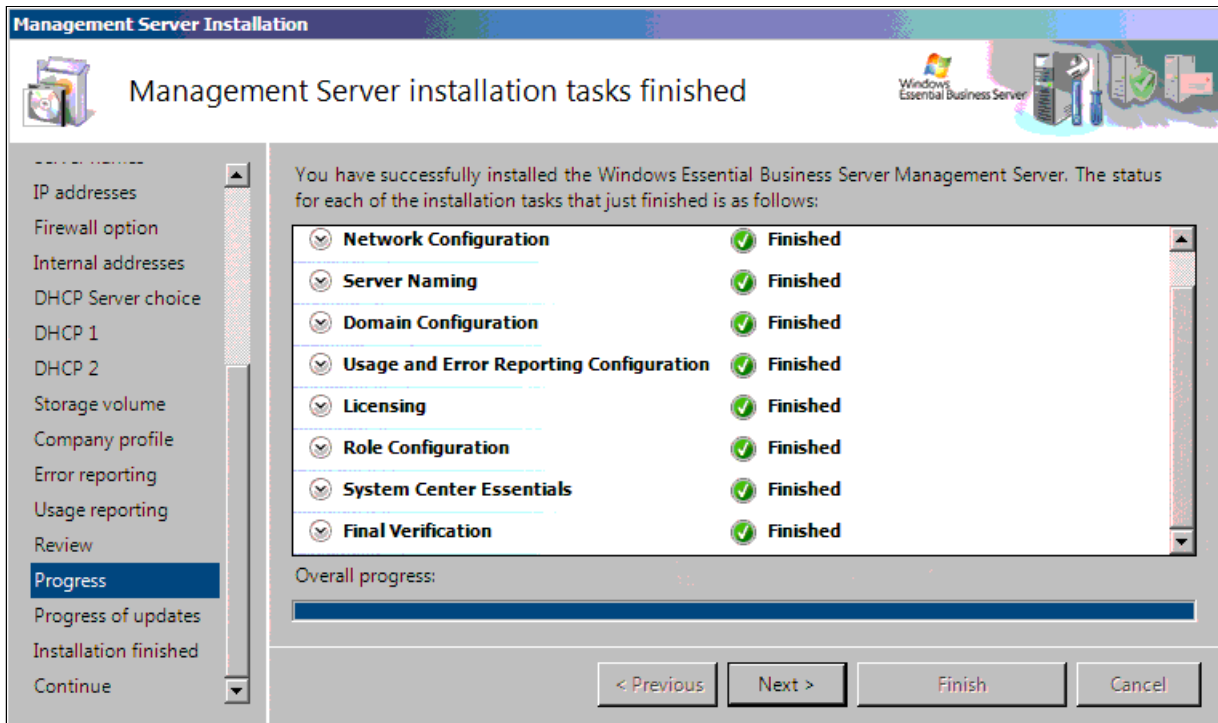

Figure 4-21 Management Server installation tasks finished
30. The “Management Server installation tasks finished” panel (Figure 4-21) displays when the installation is complete. Click **Next**.